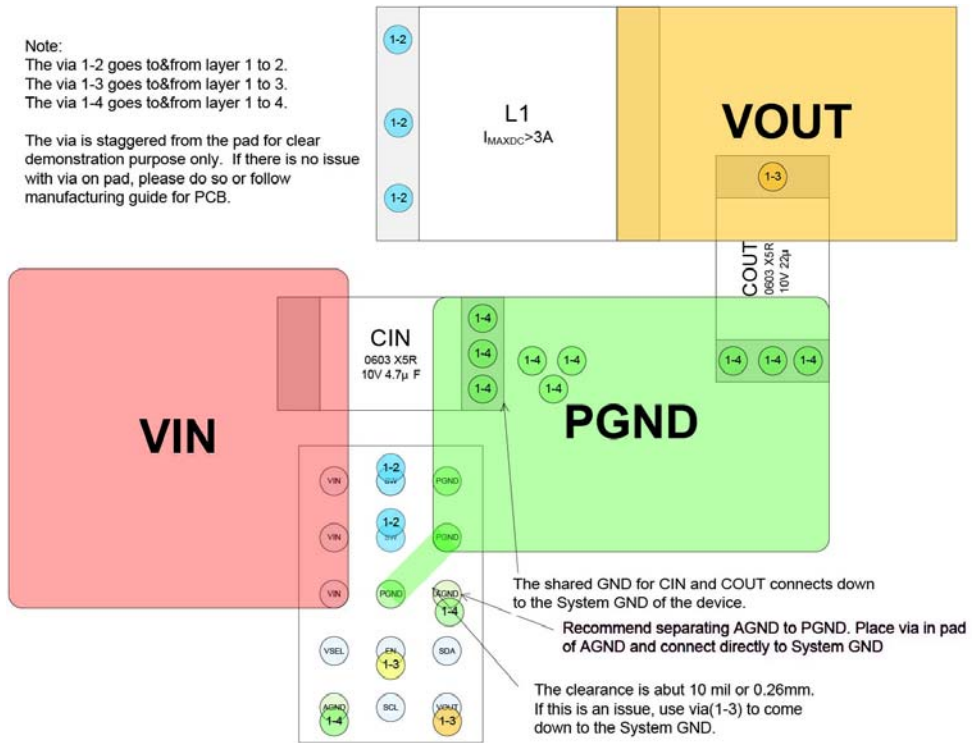
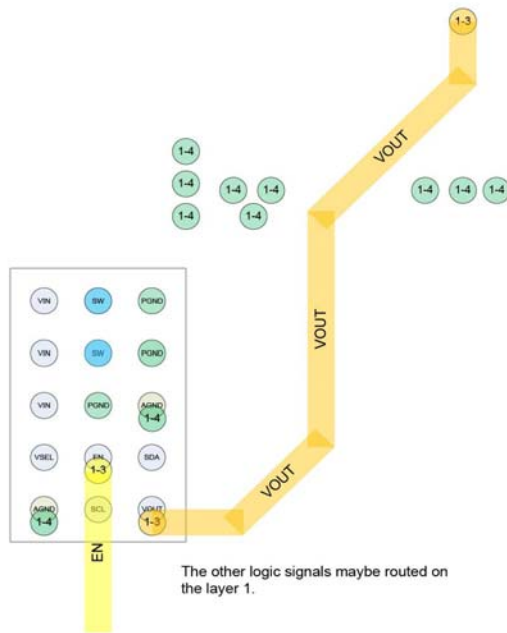

Figure 24. Guidance for Layer 1
Figure 26. Layer 3
1. The input capacitor ( $C_{IN}$ ) should be connected as close as possible to the VIN and GND pins. Connect to VIN and GND using only top metal. Do not route through via (see Figure 24).
2. Place the inductor (L) as close as possible to the IC. Use short wide traces for the main current paths.
3. The output capacitor ( $C_{OUT}$ ) should be as close as possible to the IC. Connection to GND should only be on top metal. Feedback signal connection to VOUT should be routed away from noisy components and traces (e.g. SW line) (see Figure 26).